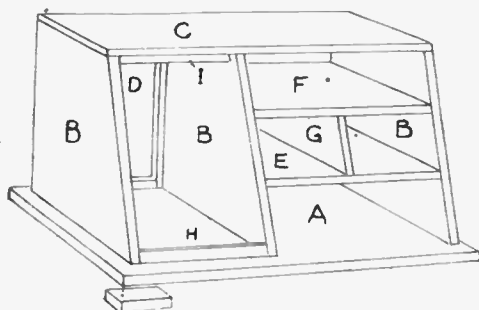

Fig. 2 - Showing general construction of framework
given in Fig. 2, where (A) is the base which must be squared up accurately from a piece of $\frac{3}{4}$ in. stuff. The sides and mid partition (B) should be tenoned into the base, and the plan, Fig. 3, gives the measurements for setting out the three mortises.
Or, again, the two pieces (E) and (F) may be shallow-grooved, as seen in Fig. 7, and partition (G) finally slid between the two after they are fixed in place. Small rails (H) and (I) are next prepared from $\frac{3}{4}$ in. by $\frac{3}{4}$ in. stuff 6 ins. long, and glued as seen in Fig. 2.